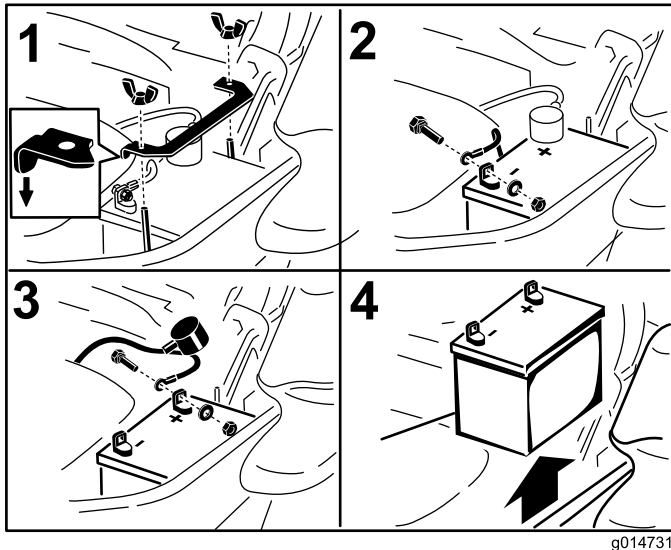

Figure 54
3. First disconnect the negative battery cable (black) from the negative (-)(black) battery terminal (Figure 54).
4. Slide the red terminal boot off the positive (red) battery terminal and remove the positive (+)(red) battery cable (Figure 54).
5. Remove the wing nut securing the battery clamp (Figure 54).
6. Remove the clamp (Figure 54).
1. Position battery in the tray with the terminal posts opposite from the hydraulic tank (Figure 54).
4. Secure the cables with 2 bolts, 2 washers, and 2 locknuts (Figure 54).
6. Install the clamp and secure it with the wing nut (Figure 54).